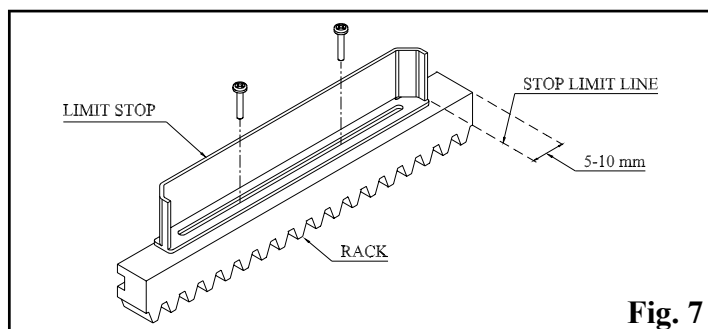
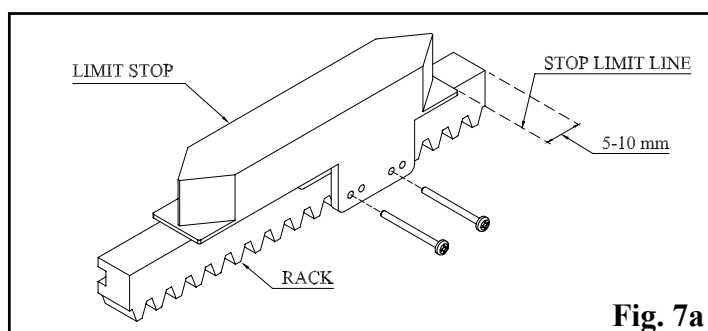

Fig. 7
Fig. 7a
3. Place start of limit stops at marked position and move it 5-10mm into the centre of the gate. Align the face of the limit stop with the side of the rack. Then drill and screw the limit stop to the rack. (Fig. 7 or Fig 7a).
4. Re-check limits by manually opening and closing the gate, checking to see that the limit is activate at the desired open and close position and mark adjustments where necessary by sliding stop in require direction. When final setting is established tighten limit stop screws. Each limit stop must be secured with 2 screws (Fig 7 or Fig 7a).